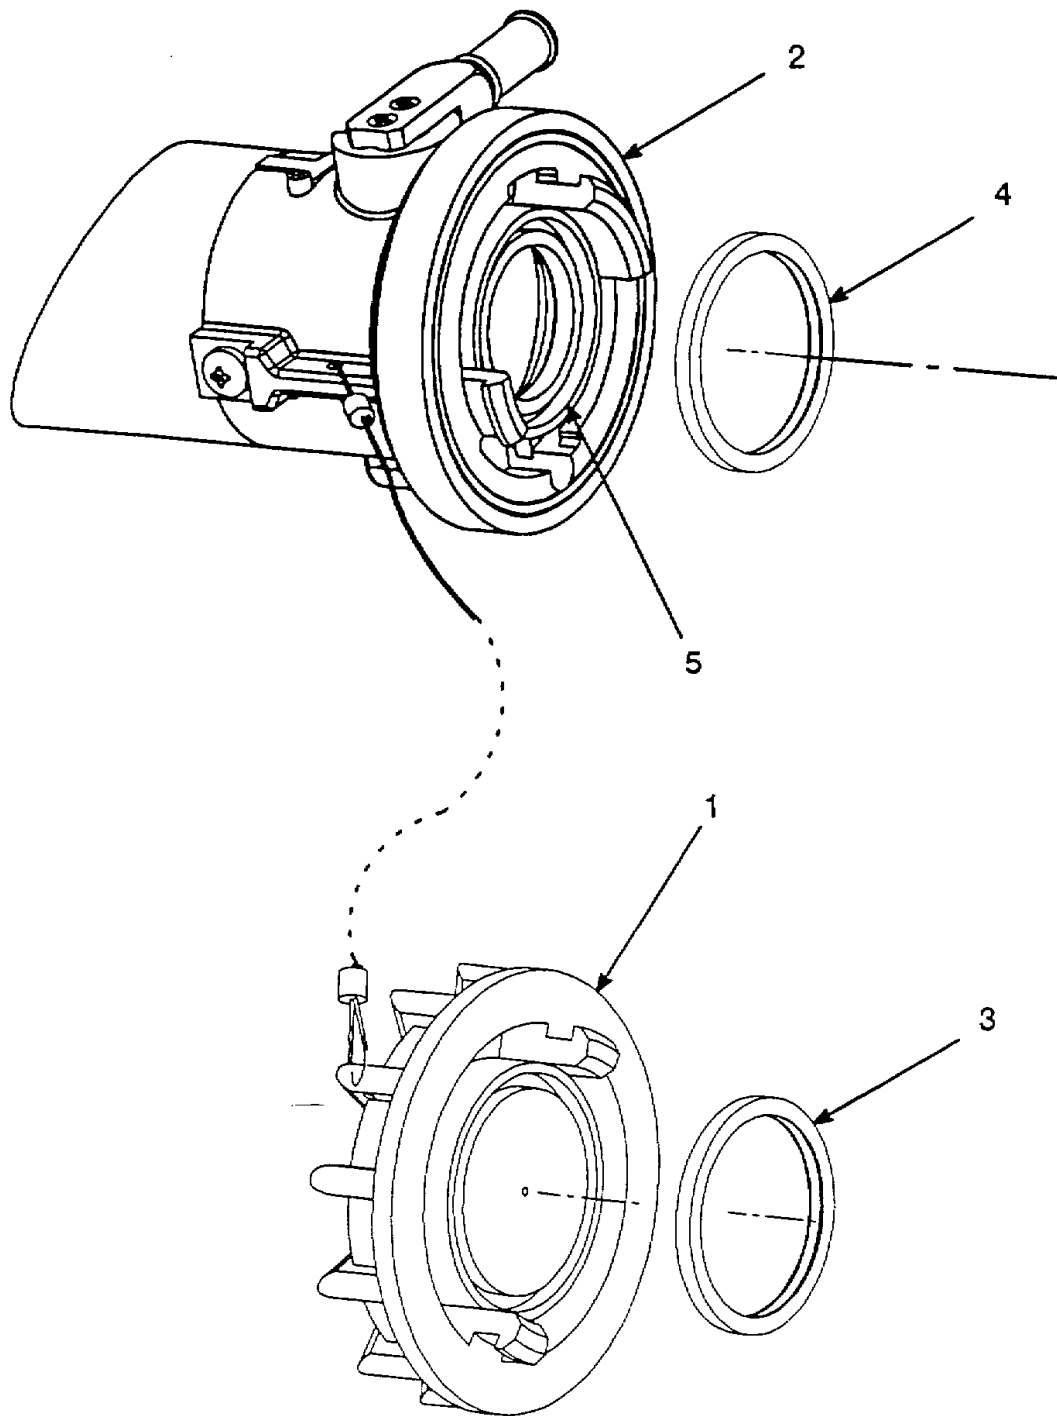

Figure 3-3. Dry Break Coupling Repair.
a. Removal. Refer to figure 3-3.
- (1) Disconnect dust cap (1) from coupling (2).
- (2) Remove seal (3) from dust cap (1).
- (3) Remove defective seal (4) from coupling (2).
b. Installation. Refer to figure 3-3.
- (1) Using clean wiping rag, remove grit, sand, and dirt from sealing surfaces of coupling (2).
- (2) Position seal (3) (from dust cap) on seal seat (5).
- (3) Work seal (3) onto seal seat (5). Make sure seal is seated evenly without wrinkles or bulges.
- (4) Install component in fuel system (para 3-2).
- (5) Startup fuel system (para 2-12c) and test coupling (2) for leaks.